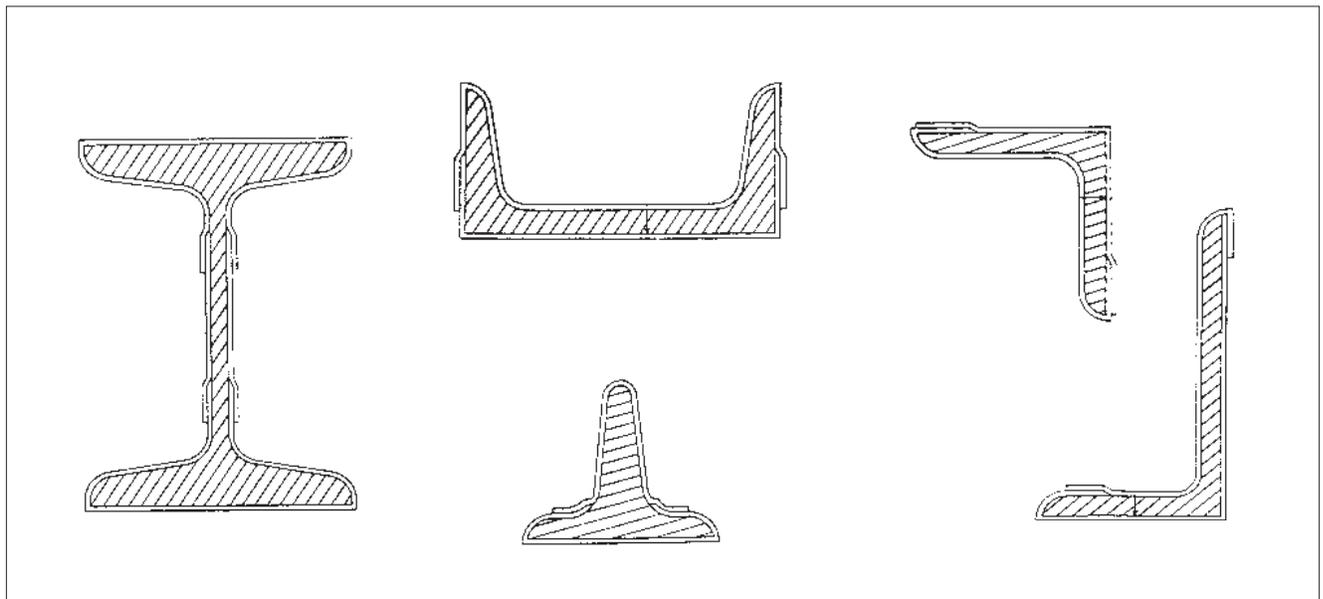

Figure 3
- 10.2 Use Prembond Hi-Tack Primer & Prembond Hi-Tack Tape which permit overlaps of at least 1" (25 mm) to be made in a downward direction (weatherboard effect) on vertical surfaces. Minimize the overlaps on the underside of horizontal surfaces (See Figure 3).
- 10.10 See Figure 3 for examples.